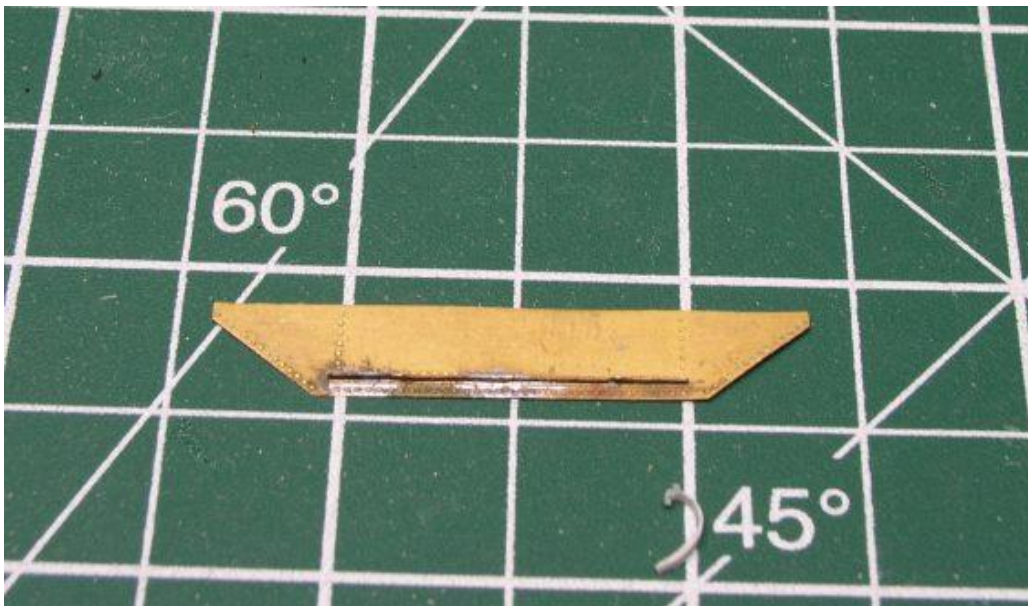

Figure B4
4. Cut out the Early Repair Patches and the Drip Strips. Depending on which version of etchings you have, solder the Drip Strips into the slots of the Early Repair Patches. See Figure B4.